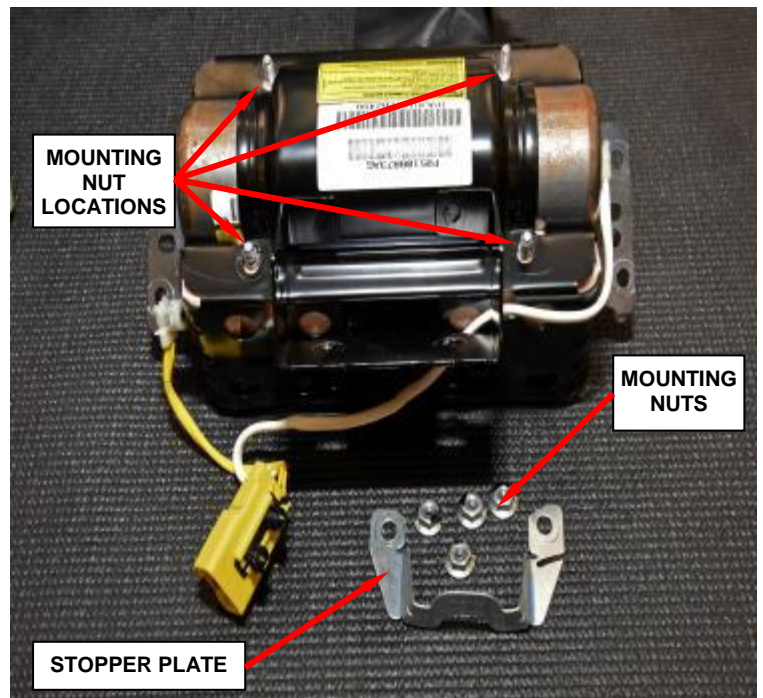

Figure 62 – Mounting Nuts and Stopper Plate
- e. Remove and **discard** the four inflator mounting nuts (Figure 62).